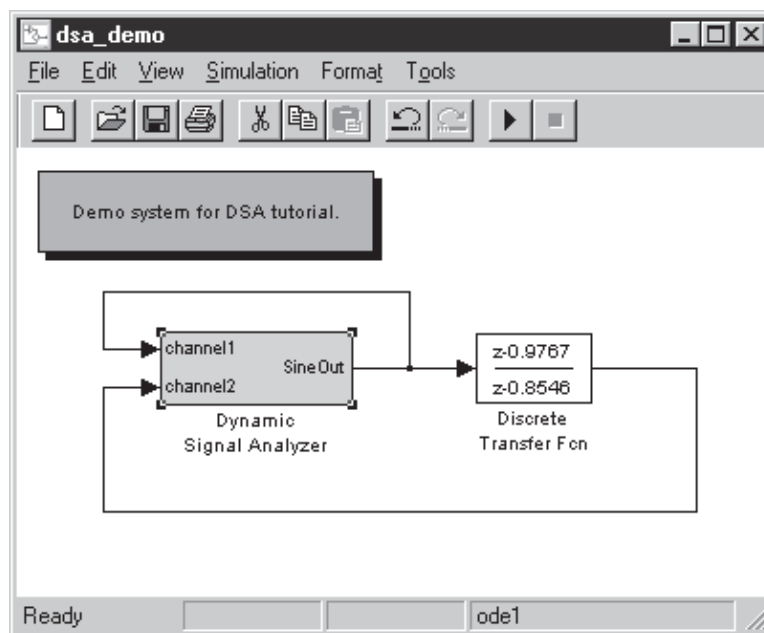

Figure 4: Simulink file `dsa_demo.mdl` used to demonstrate the operation of a dynamic signal analyzer.
- d) Now please perform system identification via the swept-sine method. Download the dynamic signal analyzer files into your working directory. Create a file like `dsa_demo.mdl`, as shown in Figure 4. This demo file is set up to test the frequency response of a lead compensator. Compile and download this file with `Tools:RTW Build`. Next, go to the MATLAB command window and type the line: `mytf=dsa_tf(logspace(1,3,10),1)`. This starts the operation of the dynamic signal analyzer. You will be asked a set of questions at the command line, and should accept the default answers for all of them. This script file sweeps through a set of input sinusoids, and records the resulting output waveform. It then measures the magnitude and phase shift between them.